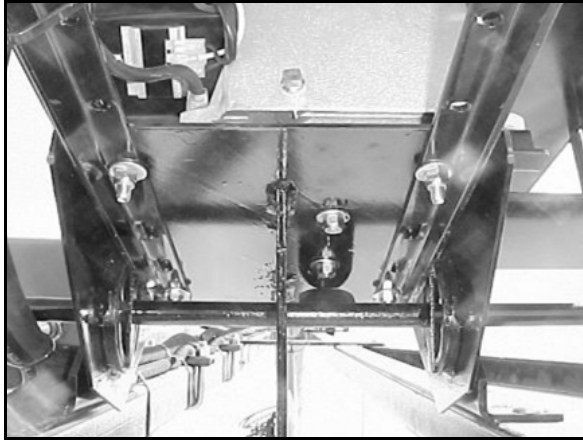

Figure 6.8 Engine Mount Bolts
3. Loosen the bolts on the engine mount shown in Figure 6.8.